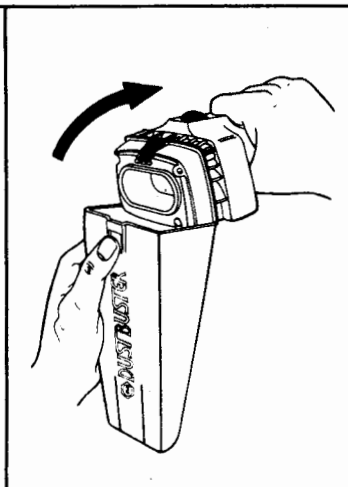

Fig. 8
2. Depress latch and swing collector bowl away and down from unit handle (Figure 8).
1. Remove the bowl as shown in figure 8.